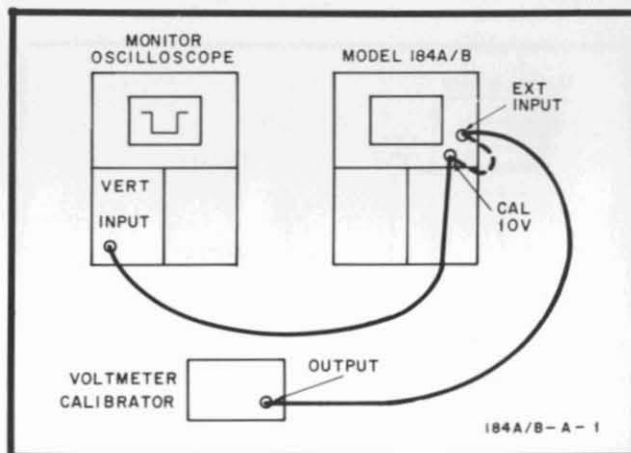

Figure 5-1. Calibrator Check
b. Connect 10V p-p signal from voltmeter calibrator to EXT INPUT (figure 5-1).